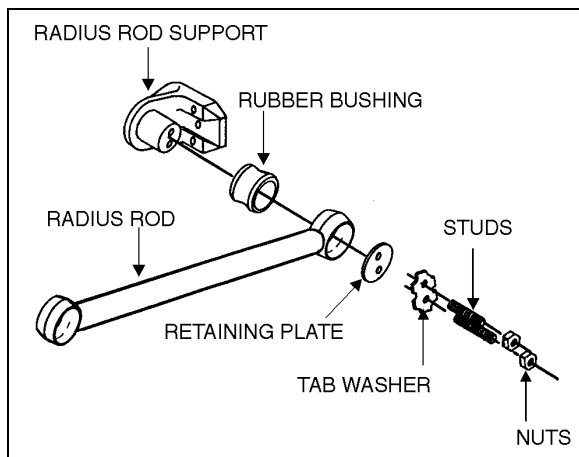

FIGURE 5: TYPICAL RADIUS ROD SETUP
1. Flatten the tab washer which secures the two retaining nuts (or bolts), and then unscrew the nuts (or bolts) at each extremity of the radius rod (Fig. 5).